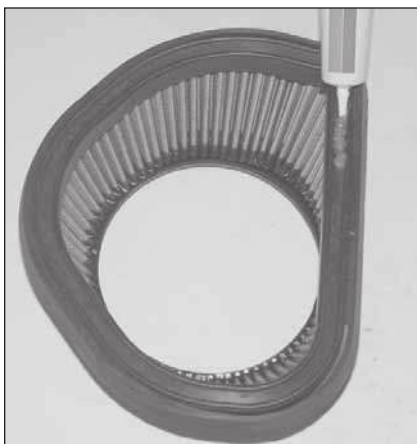

Fig. 1
- b. Hold the base of the filter upside down and apply an even bead of grease, between the two bump seals and around the base of the filter. (Fig. 1)